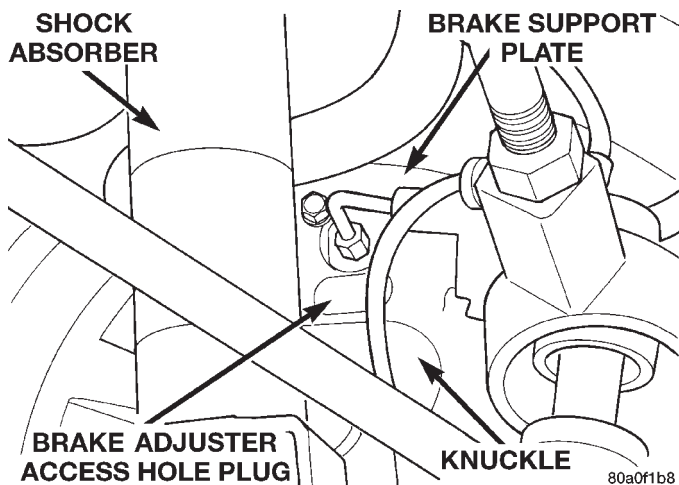

**Fig. 169 Brake Adjuster Access Hole Plug**
(1) Raise vehicle using a frame contact type hoist or supported as required using jack stands. See moistening in the Lubrication And Maintenance group of this service manual for the required hoisting or jacking procedure to be used for this vehicle.
(2) Remove the rubber plug (Fig. 169) from the brake adjuster access hole in the brake support plate.
(5) Insert a thin screwdriver or a piece of welding rod through the adjuster access hole. Carefully push the adjuster actuating lever out of engagement with the adjuster star wheel. While holding the adjuster actuating lever away from the star wheel insert a second screwdriver in access hole and engage it with the star wheel on the adjuster. Back off the adjuster star wheel until no drag is present when rotating the wheel.
(6) Repeat the above adjustment procedure at the other rear wheel.
(7) Apply and release the park brake lever one time after the rear brake shoes are adjusted. This will correctly adjust the tension of the park brake cables.
(8) Install the rubber plugs into the adjuster access holes in the brake support plates (Fig. 169).